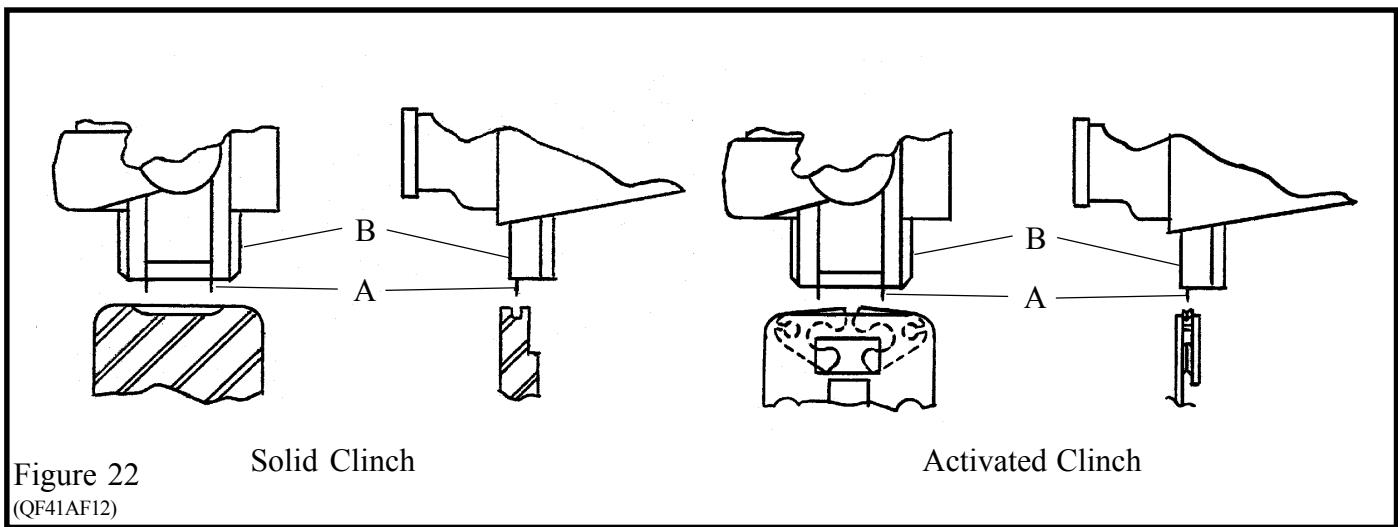

Figure 22
## F. Head/Clincher Alignment (Figures 22, 23)
1. With power off, press in and turn the jog knob clockwise until the legs of the stitch (Index A, Fig. 22) appear just below the bender bar (Index B).
3. Move the base until the legs of the stitch line up with the clincher points (Index C, Fig. 22).